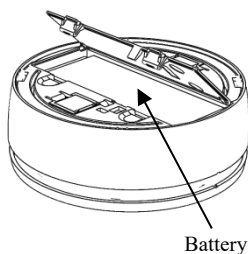

Figure 9
4. Open the battery compartment cover (see Figure 9).